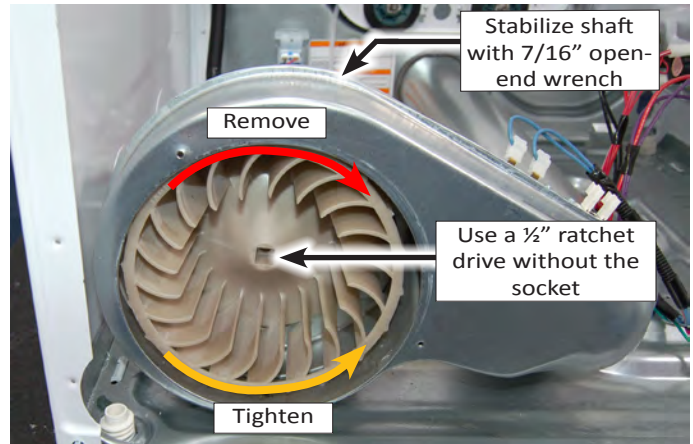

Figure 2 - Remove Blower Wheel.
NOTE: Refer to Figure 2 for the following 2 steps.
6. Reach around to the back of the blower housing and attached a 7/16" open-end wrench to the hex-end of the motor shaft. Insert a 1/2" ratchet drive into the blower wheel square hole (see Figure 2).
7. Turn the blower wheel clockwise (shown by the "REMOVE" arrow that is embossed on the front of the wheel) and remove the wheel from the motor shaft (see Figure 2).